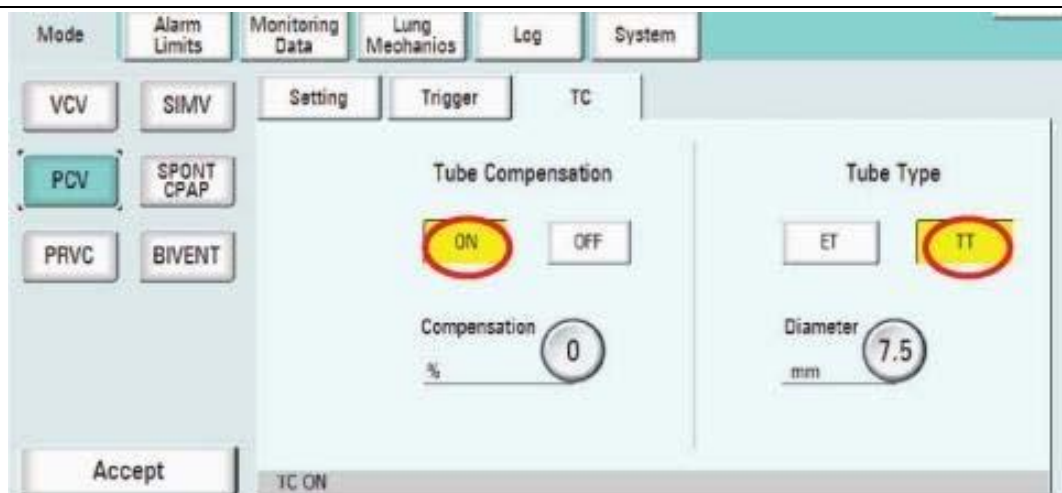

Figure 6-25
Tube compensation (TC) will be available only in pressure modes (PCV, SIMV (PCV), SPONT/CPAP and BIVENT). Select tube compensation “On” and the “On” button will become yellow as an acknowledgement, as shown in Figure 6-25.
Select the tube type in this interface: ET (Endotracheal Tube) or TT (Tracheotomy Tube), and the selected one will become yellow as shown in Figure 6-25.